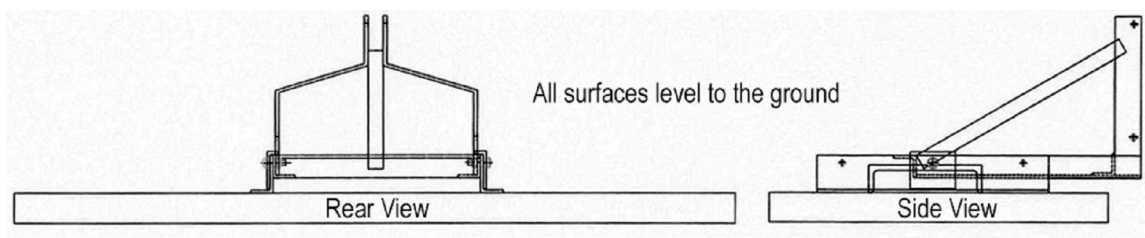

fig. 1
2. **Adjustment prior to use:** Once you have attached your DS series scraper to your tractor you will want to adjust it for best performance. This is easiest to do on a level surface such as a concrete pad or similar surface. Using your 3pt, lift the scraper up until it is about 6" off the ground. Turn off your tractor and make sure the parking brake is engaged. Standing behind the unit and visually check to see that the scraper is parallel to the ground from side to side. Make any necessary adjustments with your adjustable lift arm until the unit is level. Once that is completed, do the same from one of the sides of the scraper visually checking to see that it is level from front to back. Make any adjustments with your top link until the unit is reasonably level. (fig. 1)